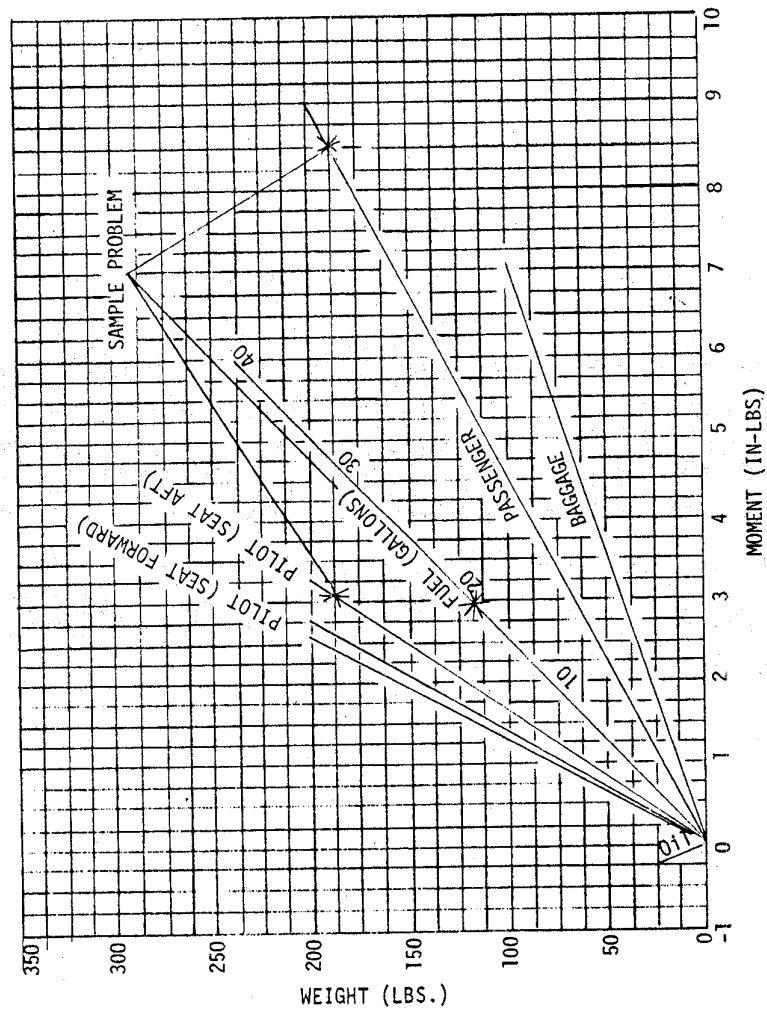

FIGURE 5-2 LOADING GRAPH (All Decathlon Models)
3. Using the Loading Graph, Figure 5-2, determine the weight and the moment of the following items and enter these figures on the Sample Loading Problem.
- NOTE: 1) Use Figure 5-2 loading graph to determine moment.